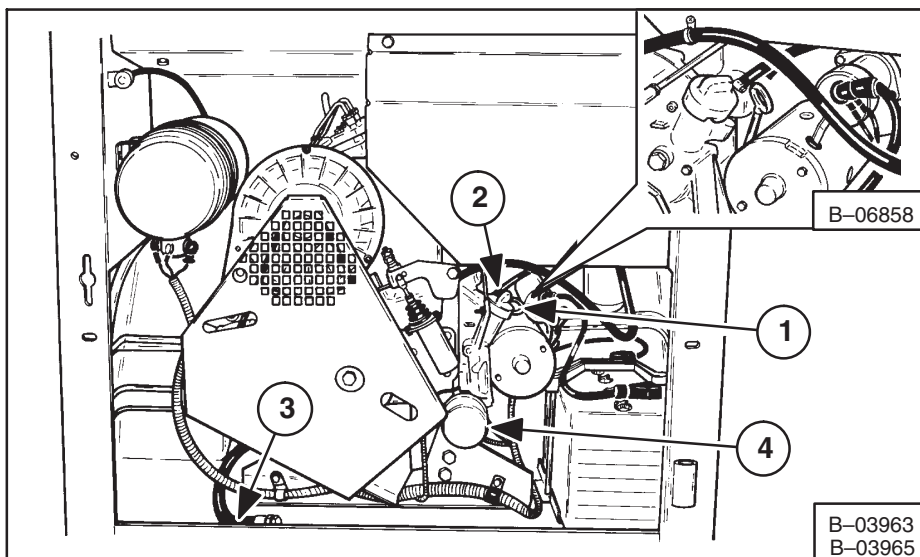

Fig. 1-10 Engine Servicing (641)
To check the oil level, stop the engine and remove the dipstick from the engine (Fig. 1-10, 1-11, 1-12, Items 1).
To add oil remove the fill cap (Fig. 1-10, 1-11, 1-12, Items 2)
2. Remove the oil plug (641, Fig. 1-10, Item 3) (642, Fig. 1-13, Item 1) (643, Fig. 1-14, Item 1).
3. Remove the oil filter (641, Fig. 1-10, Item 4) (642, Fig. 1-13, Item 2) (643, Fig. 1-12, Item 3).